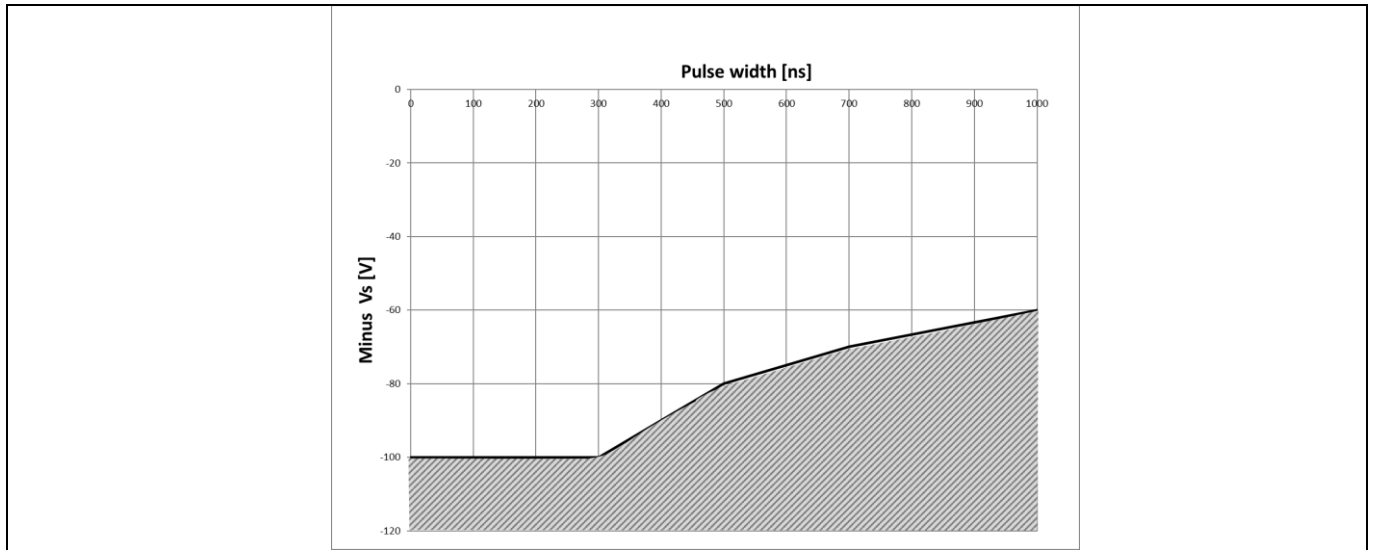

Figure 18 Negative VS transient SOA for 2ED2106 (4) S06F (J) @ $V_{BS} = 15\text{ V}$
Infineon’s HVICs have been designed for the robustness required in many of today’s demanding applications. An indication of the 2ED2106 (4) S06F (J)’s robustness can be seen in Figure 18, where the 2ED2106 (4) S06F (J)’s Safe Operating Area is shown at $V_{BS}=15V$ based on repetitive negative V_S spikes. A negative V_S transient voltage falling in the grey area (outside SOA) may lead to IC permanent damage; viceversa unwanted functional anomalies or permanent damage to the IC do not appear if negative V_S transients fall inside the SOA.